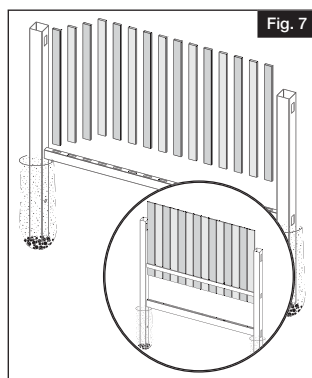

Fig. 7
- Starting from the left side, insert pickets/boards down into the bottom rail (Fig. 7).